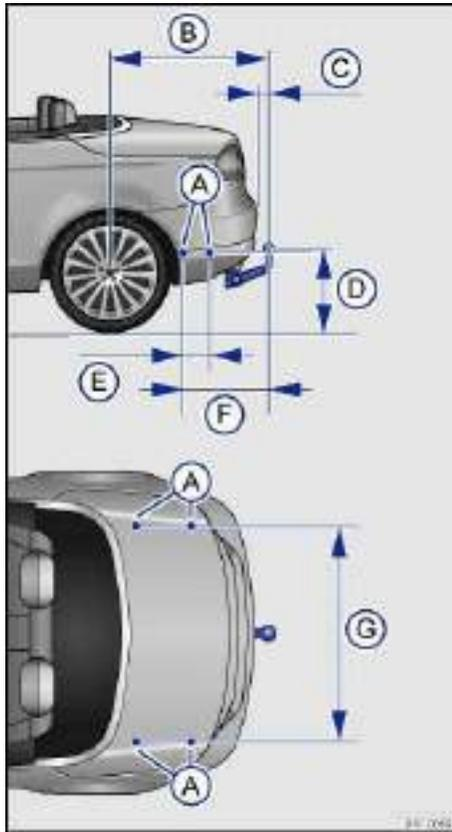

Fig. 102 Dimensions and attachment points for retrofitting a trailer hitch.
⇒ fig. 102 (D) be less than the specified minimum. This minimum height must be present even when the vehicle is fully loaded and subject to the maximum tongue weight.